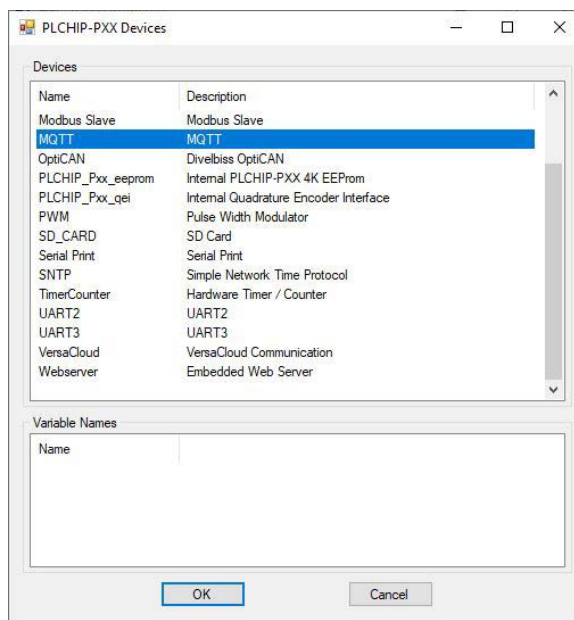

Figure 28-2
4. Find and select the **MQTT** option (highlight). Refer to Figure 28-2.